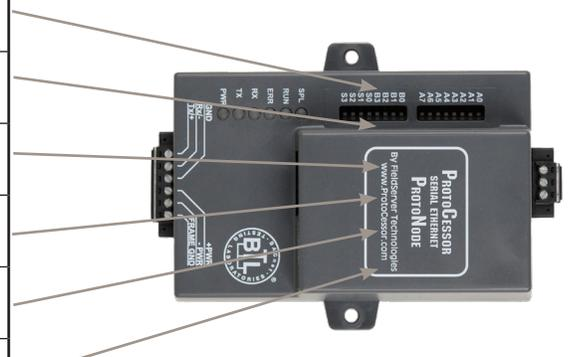
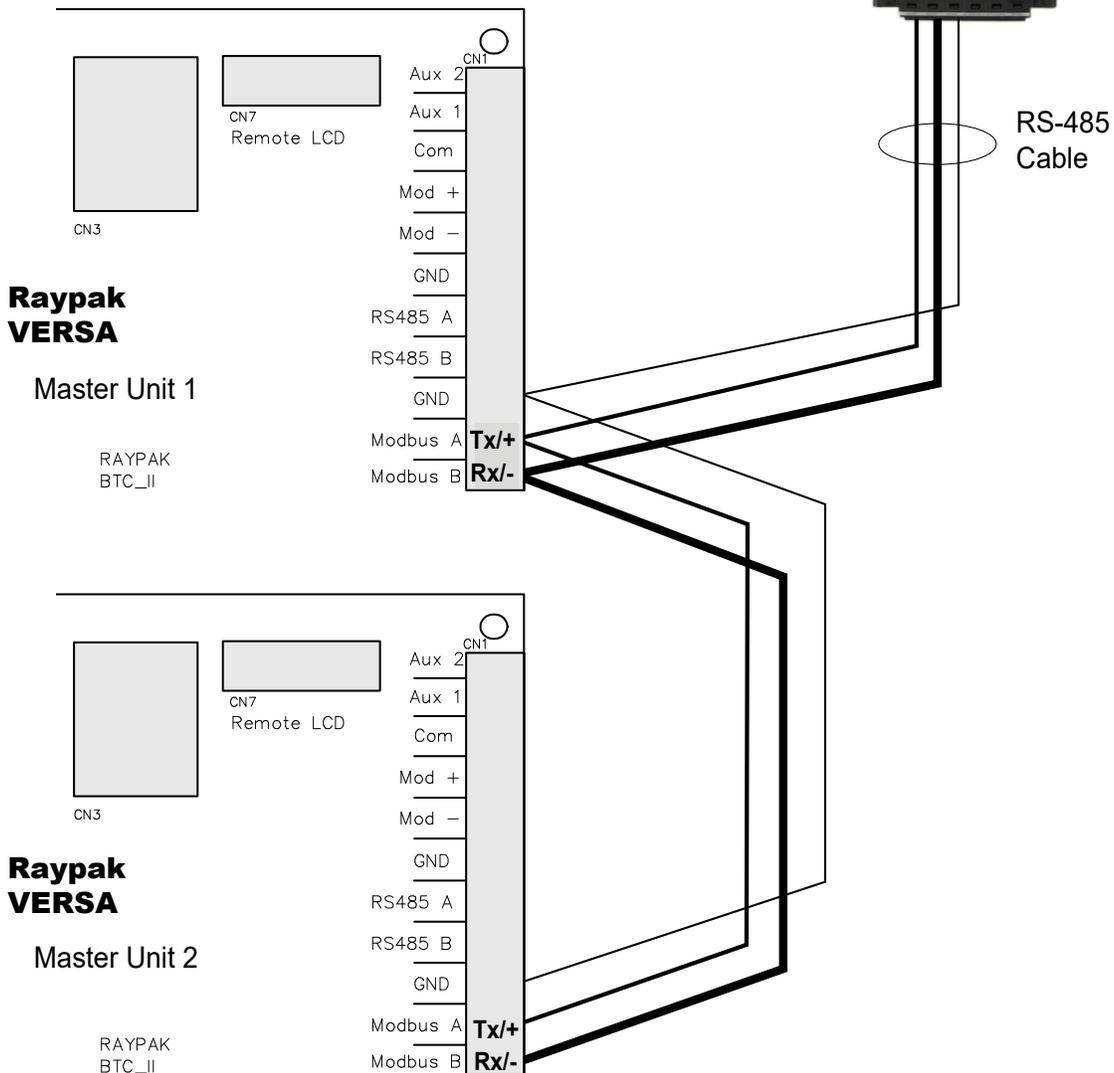

Figure 5. Power and RS485 pin outs
Figure 7. Multiple VERSA IC Masters
8. Connect each of the Raypak devices to the RS-485 Modbus RTU port to the ProtoNode's RS-485 interface which is located on the 6 pin connector of the ProtoNode (FPC-N34 and FPC-35). (See **Figure 5** through **Figure 7**)